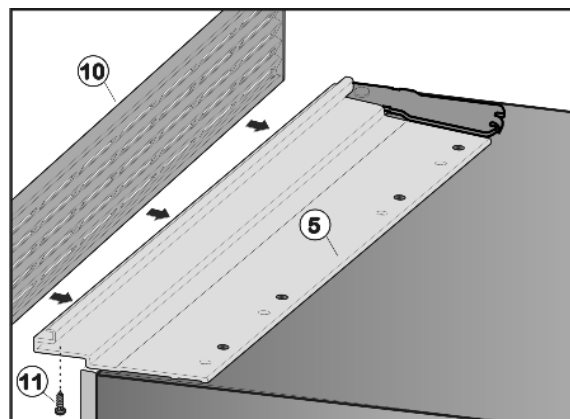

Fig. 46
- Position ventilation grille Fig. 46 (10) over the installation contour Fig. 46 (5) and align it such that the holes in ventilation grille and installation contour are above each other.
- Screw ventilation grille Fig. 46 (10) to installation contour Fig. 46 (5) from below using three screws Fig. 46 (11).